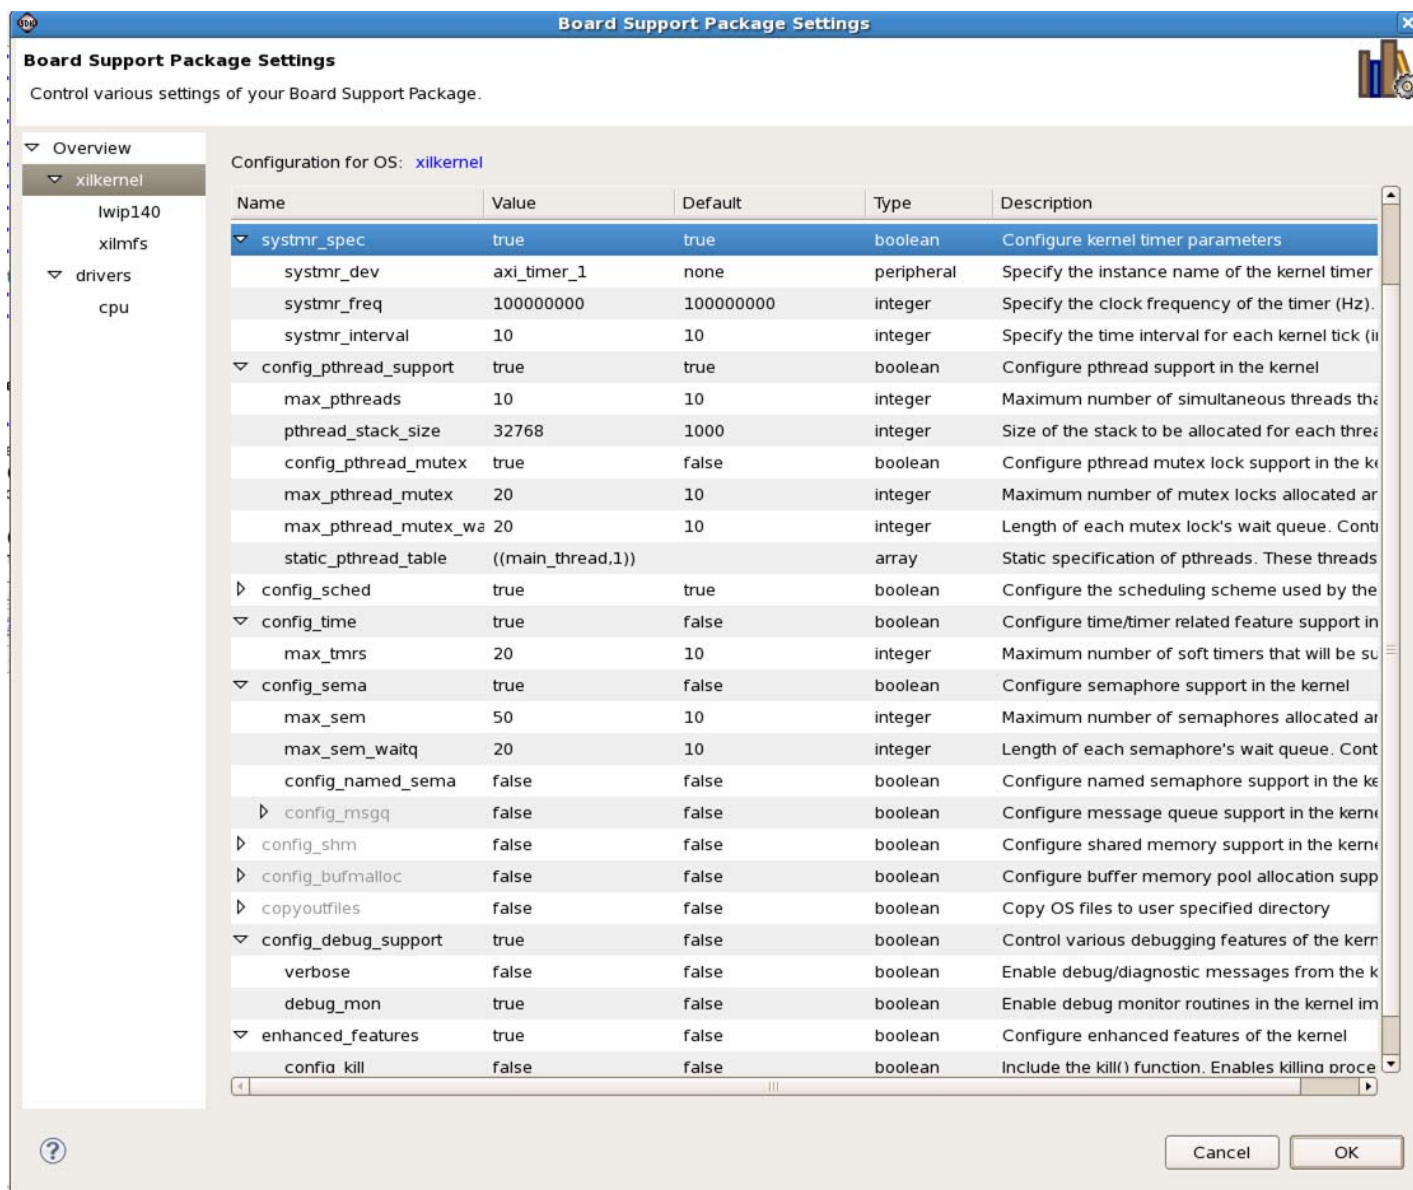

Figure 7: Board Support Package Settings
2. The settings are completed under xilkernel bsb (right-click xilkernel\_bsp\_0 in SDK project and select **Board Support Package Settings**). See Figure 7.